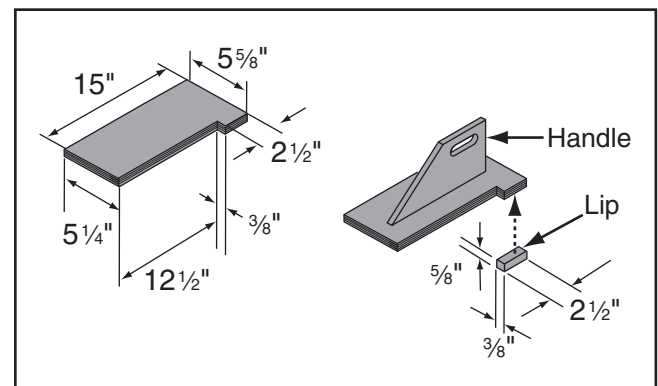

Figure 110. Push block dimensions and construction.
3. Using the $\frac{3}{4}$ " material you used in the previous steps, cut out pieces for the push block per the dimensions shown in **Figure 110**; for the handle, cut a piece 10" long by 5"–9" high and shape it as desired to fit your hand.